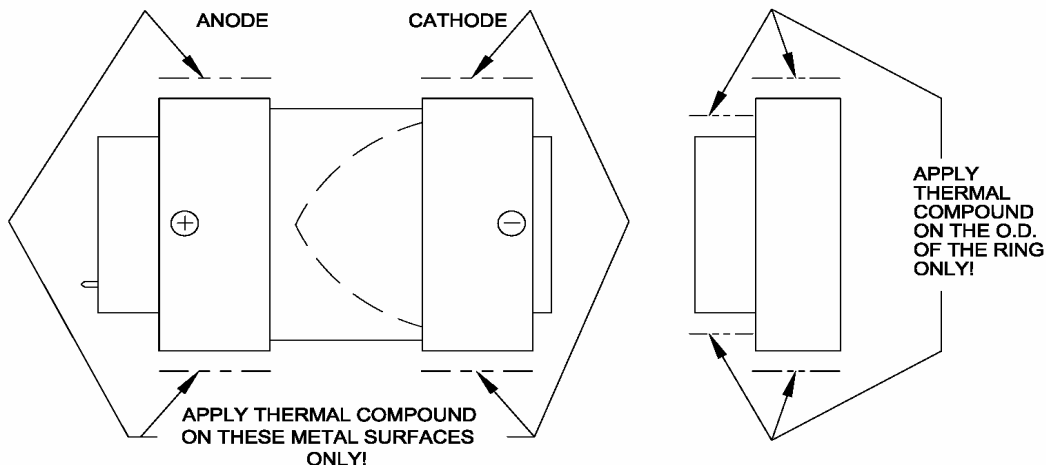

Fig 3. Thermal Compound Application
the lamp. See Figure 3. Insert the lamp into the anode heatsink, line up with hole pattern on heat sink and gently tighten the three (3) screws until fully seated to secure heatsink to lamp.
- Apply a light coat of the thermal compound (supplied with the lamp) on the collar (cathode side -) of the lamp. Insert the cooling ring into the collar (cathode side -) of the lamp. Apply a very thin coat of thermal compound to the collar and outside of the cooling ring. See Figure 3.